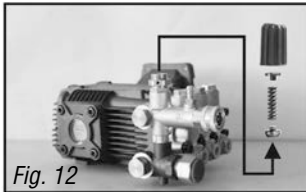

Fig. 12
2. Remove the adjustment knob screw (#44), Adjustment knob cap (#45), adjustment knob, (#46) upper spring seat (#80), spring (#47) and lower spring seat (#48) (Fig. 12).